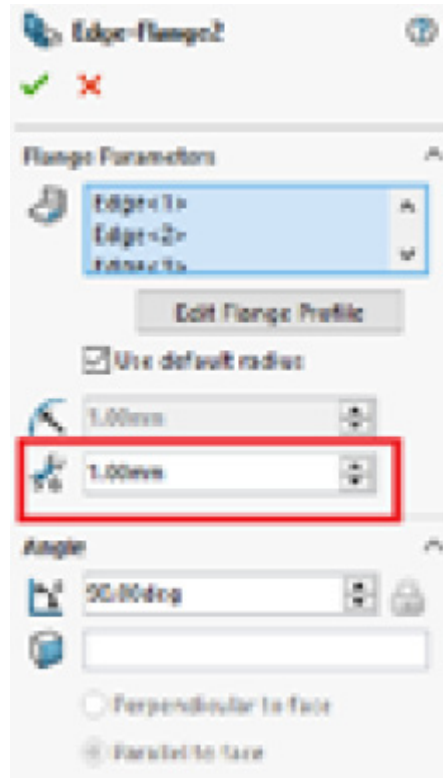

Figure 2.18: The Gap distance option
2. The Gap distance option is now available (*Figure 2.18*). Try adjusting the gap size and note how the gap between the adjacent flanges in the yellow preview changes.